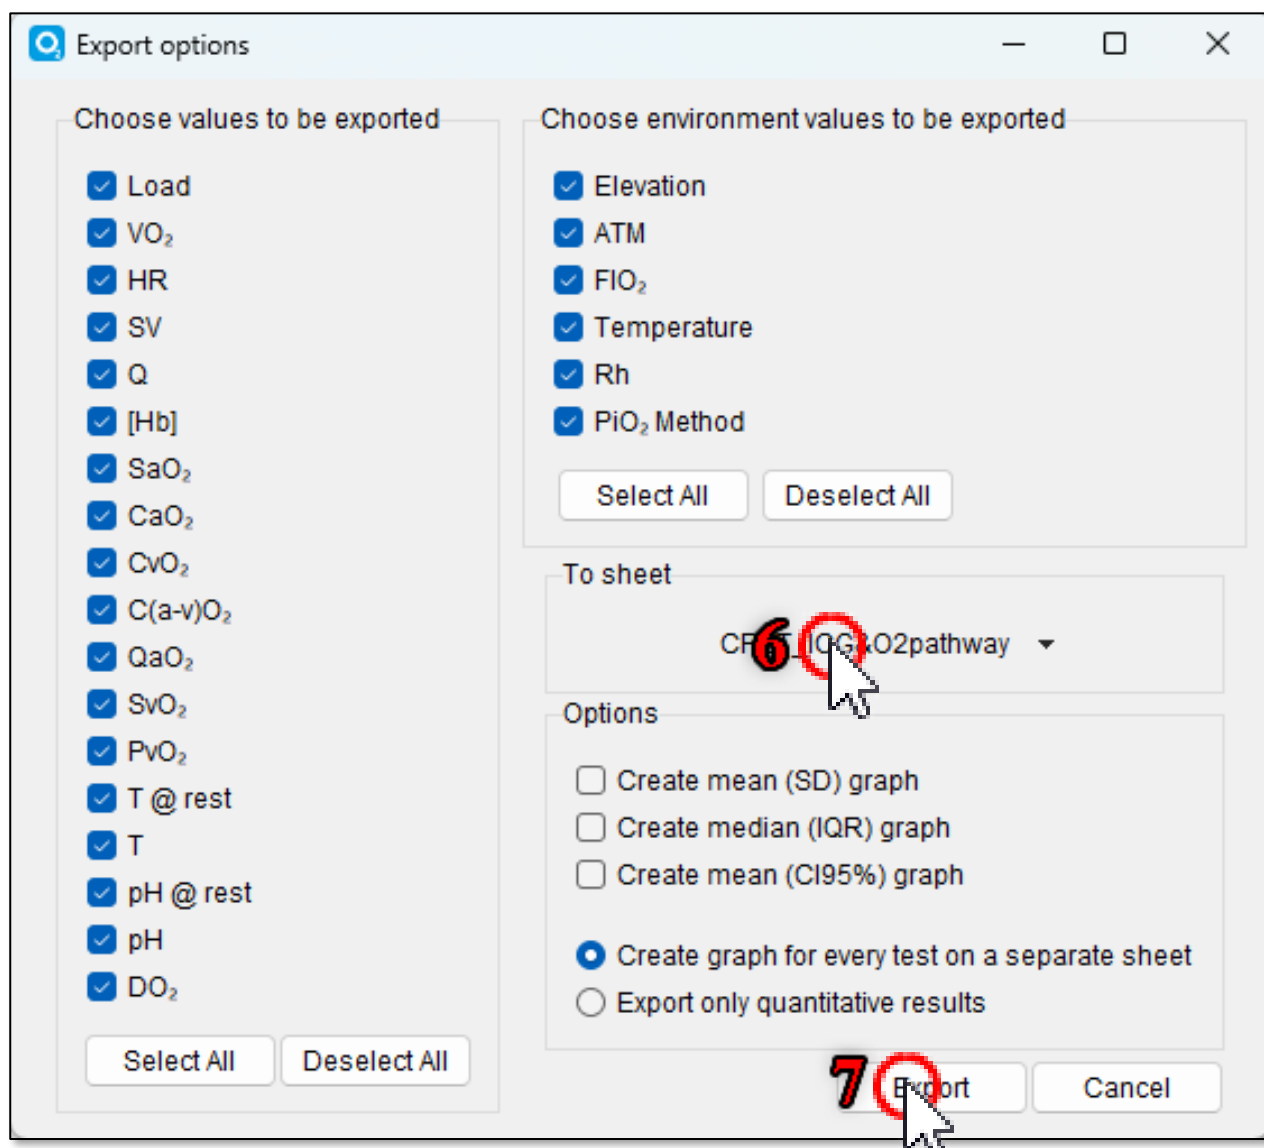

Figure 53
5. Select parameters to be exported (Figure 53).
6. Select the sheet you want to append the data to (Figure 53).
7. Click the “**Export**” button (Figure 53).